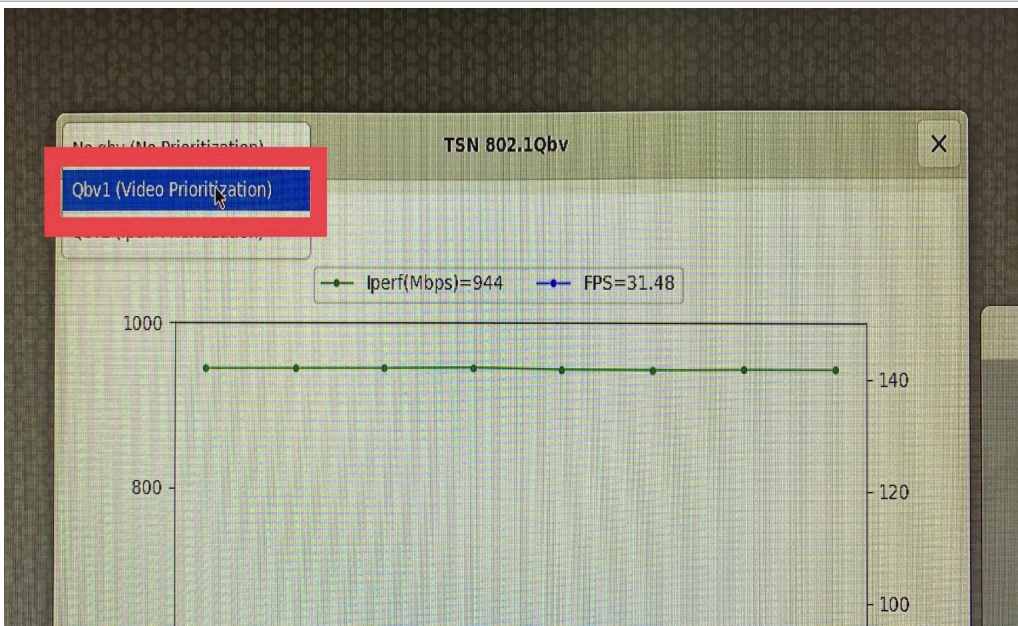
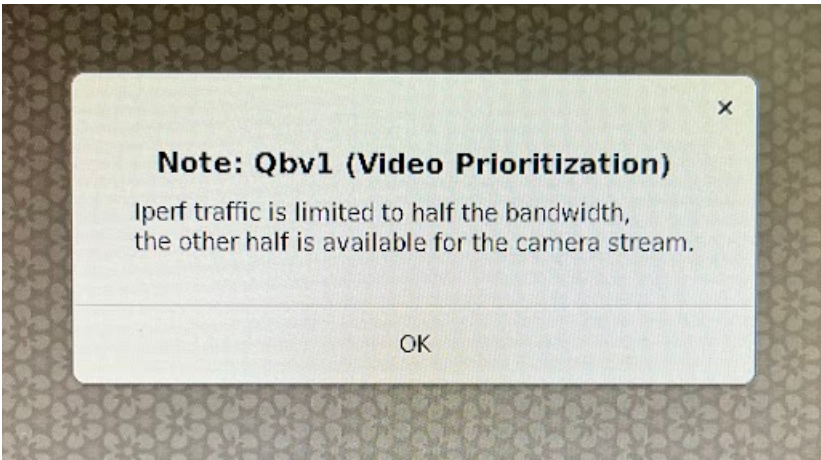

Figure 54. Qbv1 (Video Prioritization) configuration button
Figure 55. About Qbv1 (Video Prioritization) pop-up window
- After clicking the **Qbv1 (Video Prioritization)** button, as shown in Figure 54, the pop-up window shown in Figure 55 appears.